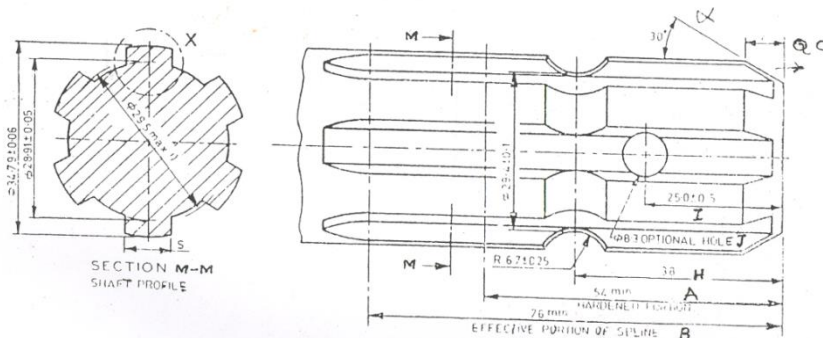

Fig. 2: Dimensions of Implement Power Input Shaft, mm
7.1	Dimensions of splined end of pinion shaft, mm (Refer Fig. 2)